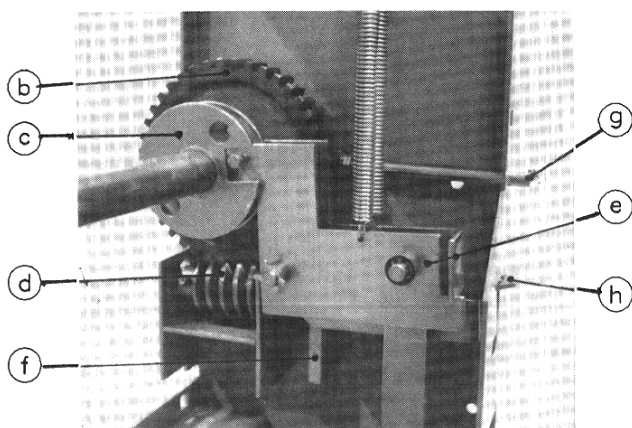

Figure 11. Levering-In Mechanism and Interlocks
The breaker is moved between the disconnected and connected positions by the levering-in device. This consists of a shaft which is supported by the breaker frame side sheets, and which has a crank arm at each end (Figure 11). Rollers attached to the crank arms engage vertical slots in plates attached to the cell and rotation of the shaft causes the breaker to move in and out of the breaker housing. The levering-in shaft supports a worm wheel at its right end just inside the right breaker side sheet (Figure 11). The worm wheel is rotated by a worm gear on a shaft which is terminated in a hexagon drive nut attached by a shear pin. The shaft points in a direction from the front to the back of the breaker. This hexagon shaft has a threaded portion carrying a threaded plate. As the shaft is rotated, the threaded plate moves along the worm shaft until it encounters either a front or a back sleeve attached to the shaft and further rotation of the worm shaft is prevented. At this time, the position indicator on the front of the breaker will indicate that the breaker is either in the connected or disconnected position. A socket-head bolt mounted on the left side sheet serves as a backup to the threaded plate, providing a positive stop to left crank arm.
Access to the hexagon drive nut on the levering-in device is restricted by a shutter on the front panel of the breaker (Figure 11). This shutter is pivoted on the breaker frame and has a projecting pin which engages a slot on a cam on the levering-in shaft. This particular cam has two (2) slots arranged so that the shutter can only be in its upward position when the levering in cranks are in the connected, test or disconnected position. The shutter cannot be moved downward until the trip plate is pushed inward and the secondary disconnect plug is inserted. Pushing the trip plate inward moves one prop out of the way of the shutter. Insertion of the secondary plug pushes the blocking plate backward and rotates a second prop out of the way of the shutter. Then, downward movement of the shutter causes a lever operating in parallel with the shutter to move downward, and a projecting pin on this lever disengages a second cam located next to the shutter cam. Downward movement of the lever moves a bolt which locks the secondary disconnect plug in its connected position. The second cam has only one slot and the lever can only move upward when the levering-in shaft is in the disconnected position. To summarize the action of the levering-in interlocks; the worm gear shaft shutter cannot be depressed until the breaker is tripped by pushing on the trip plate and the secondary disconnect plug is inserted. Downward movement of the shutter causes its interlock pin to move out of its cam plate. It also pushes a locking bolt downward to lock the secondary disconnect plug in position. The bolt cannot return upward in any other position than disconnect because it is restrained by a cam having only one slot.